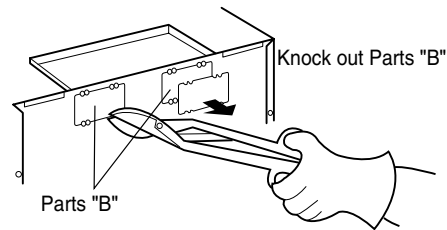

Figure 14
3. Use side cutters or tin snips to cut and remove knockouts B from Back plate. Discard knockouts. Be careful not to distort the plate. See Figure 14.